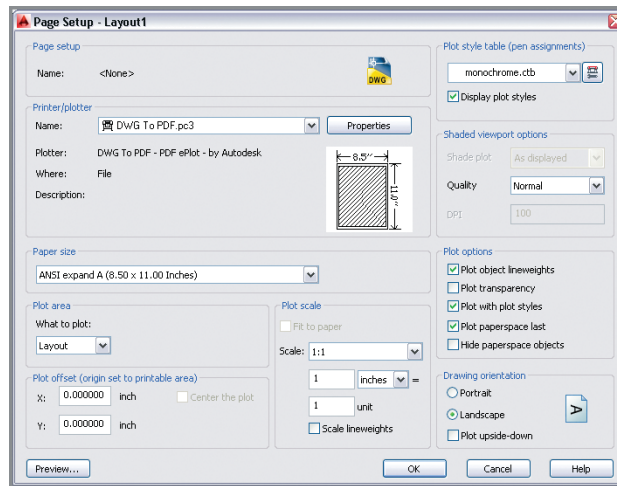

FIGURE 13.11 Configuring a page setup
- ▶ If you are using Imperial units, select ANSI Expand A (8.50 × 11.00 Inches) as the paper size (see Figure 13.11). Leave the plot scale at 1 inch = 1 unit. Click OK, and then click Close.